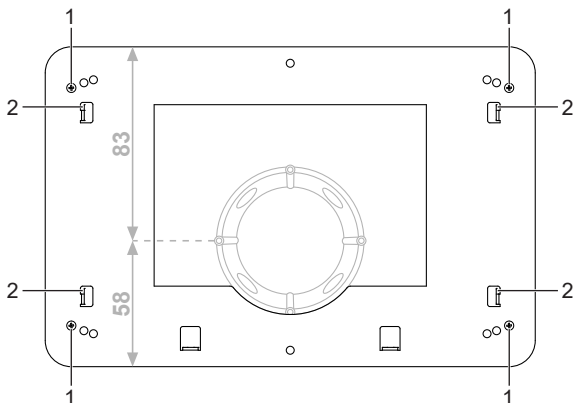
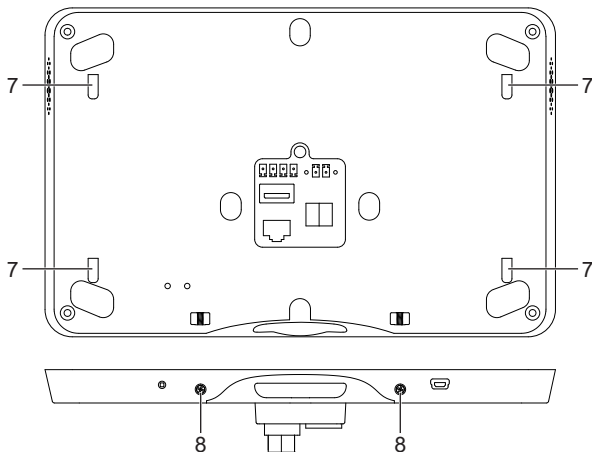

Fig.2: Mounting the adapter
Fig. 4: Mounting the Smart Panel
- Mount the adapter on the installation box with a total of four locking screws (1). (fig. 2)
- Place the openings for wall mounting (7) on the Smart Panel on the fixing hooks (2) on the adapter. (fig. 2 and fig. 4)
- Fasten the Smart Panel to the adapter on the underside with a total of two locking screws (8). (fig. 4)